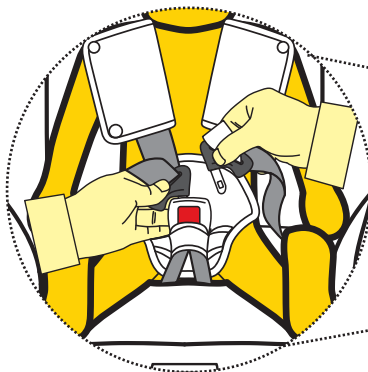

Figure 3
Step 3: Place child in car seat with legs either side of the buckle, place harness over the shoulders and hips (refer Figure 3).